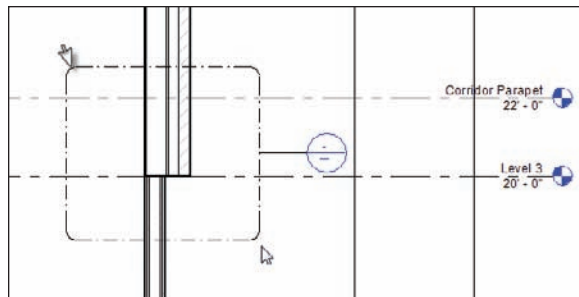

FIGURE 3.61 The callout area is directly related to the view it is calling out.
5. Pick a window around the area where the corridor fire wall meets the exterior wall with the brick façade, as shown in Figure 3.61.